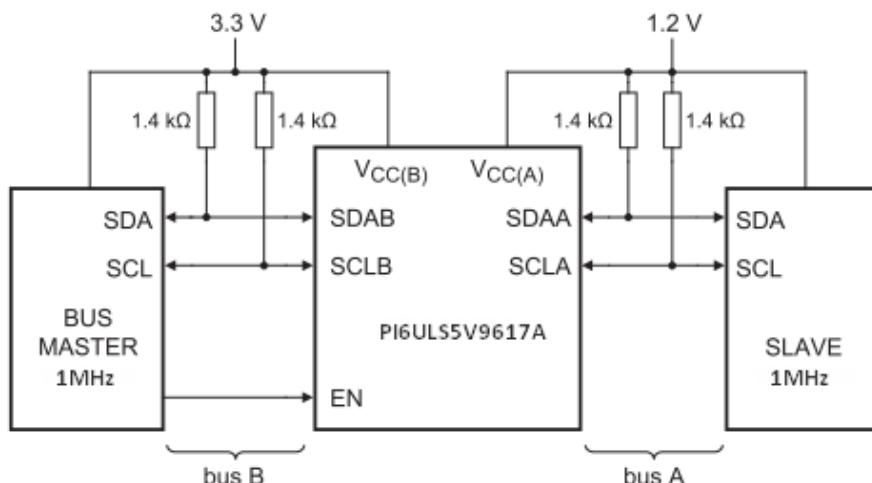
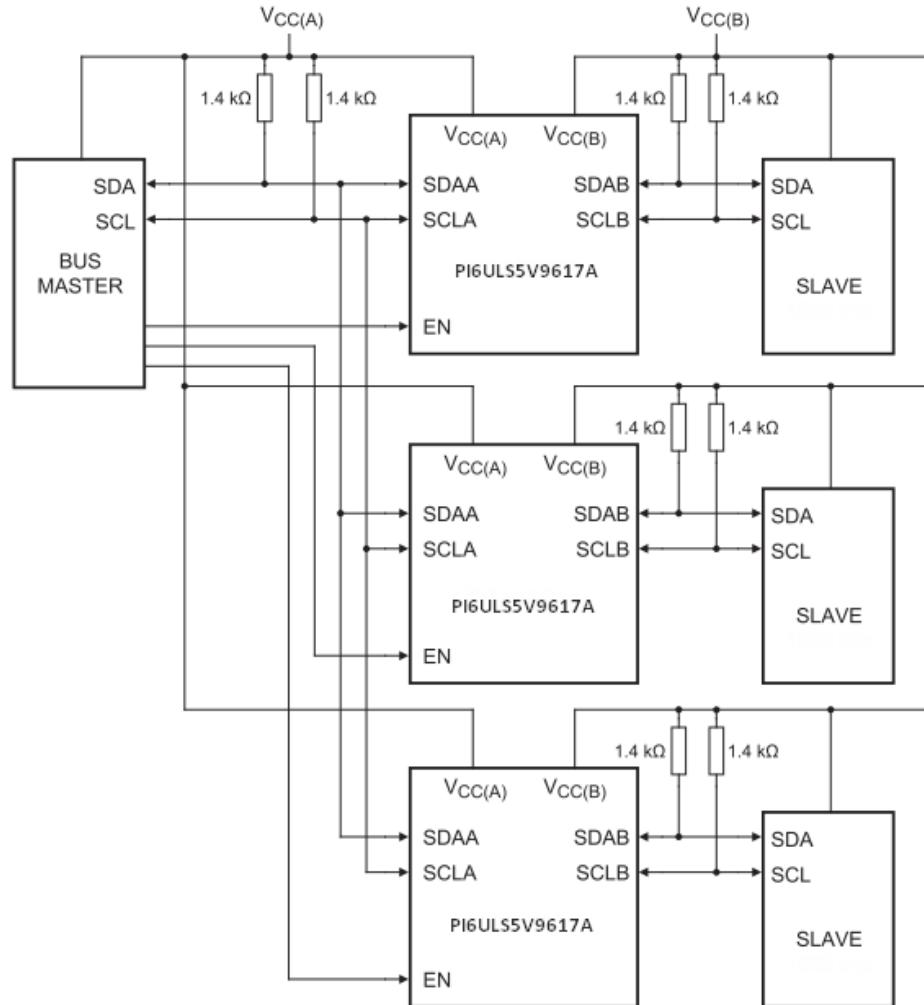

Figure 9: Typical Application
Figure 10: Typical Star Application
A typical application is shown in Figure 9. In this example, the system master is running on a 3.3 V I2C-bus while the slave is connected to a 1.2 V bus. Both buses run at 1MHz. Master devices can be placed on either bus.
When port A of the PI6ULS5V9617A is pulled LOW by a driver on the I2C-bus, a comparator detects the falling edge when it goes below 0.3VCC(A) and causes the internal driver on port B to turn on, causing port B to pull down to about 0.5 V. When port B of the PI6ULS5V9617A falls, first a CMOS hysteresis type input detects the falling edge and causes the internal driver on port A to turn on and pull the port A pin down to ground. In order to illustrate what would be seen in a typical application, refer to Figure 9 and Figure 10. If the bus master in Figure 9 were to write to the slave through the PI6ULS5V9617A, waveforms shown in Figure 9 would be observed on the A bus. This looks like a normal I2C-bus transmission except that the HIGH level may be as low as 0.6V, and the turn on and turn off of the acknowledge signals are slightly delayed.
Multiple PI6ULS5V9617A port A sides can be connected in a star configuration (Figure 10), allowing all nodes to communicate with each other.